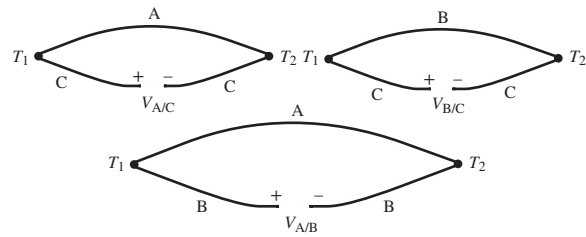

Figure 9.39 Law of intermediate metals.
5. *Law of intermediate metals.* As illustrated in Figure 9.39, the voltage produced between two metals A and B is the same as the sum of the voltages produced by each metal (A and B) relative to a third metal C according to: